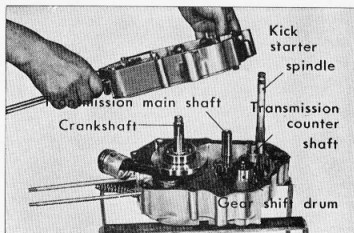

Figure 3-76. Assembling R crankcase
- (1) Check to make sure that the gasket and the two dowel pins are installed on the left crankcase before assembling the right crankcase to it. (Fig. 3-76)